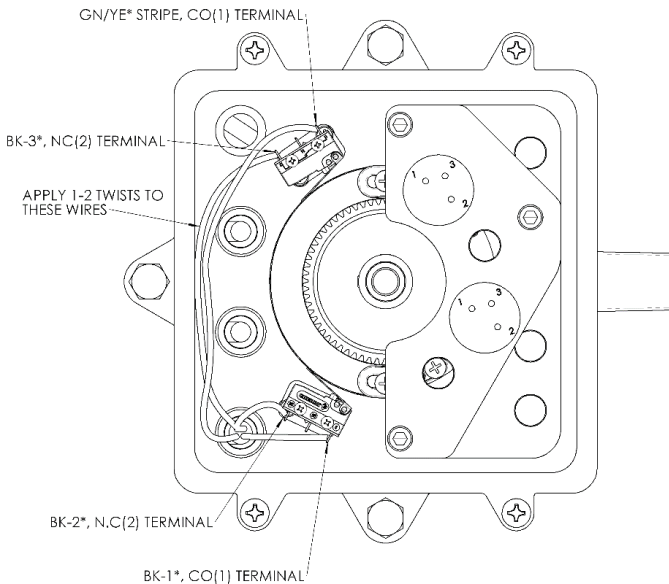

Figure 16: Default factory wiring diagram of new microswitches, 7174-B shown.
- a. The actuation lever of microswitch ② is clear of any obstructions through its range of motion.
- b. The microswitch ② actuation lever is depressed enough to actuate the switch contacts when the RFU is at its limit:
This can be done by checking for no continuity across the Normally Closed(N.C) terminal 2 and the Common(C) terminal 1. See Figure 16 for clarity on terminals being checked. When the switch is depressed, terminal 1 and 2 should have no continuity.
13. When the microswitch position is determined to be correct, tighten the microswitch screws ③ to 0.85 lbs.in [0.1Nm]. The switch trip cam screws should be tightened secure.
14. The microswitches come wired as shown in Figure 16. Compare this to the wiring noted in the original switches that was noted in step 1. If there is any difference, make necessary adjustments at the junction box to ensure the same functionality of the microswitches. Do not de-solder the cable at the microswitch terminal and adjust conductor position.
- a. Refer to Figure 16 for the recommended wire routing route to ensure the wiring are free of any moving parts.
- i. Attach the cable ties as shown in Figure 16.